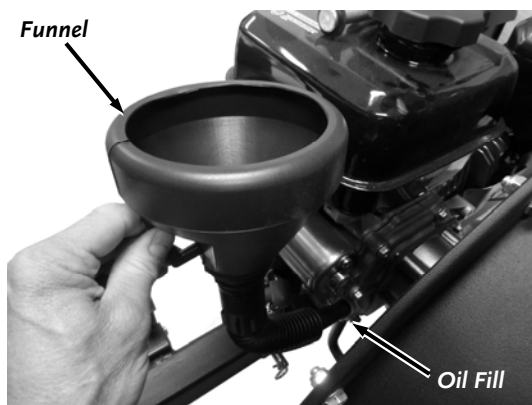

Figure 57
3. Remove the dipstick and add an initial quantity of the oil recommended by the Engine Manufacturer (refer to your Engine Owner's Manual for recommended quantities), and wait one minute for the oil to settle (**Figure 57**).